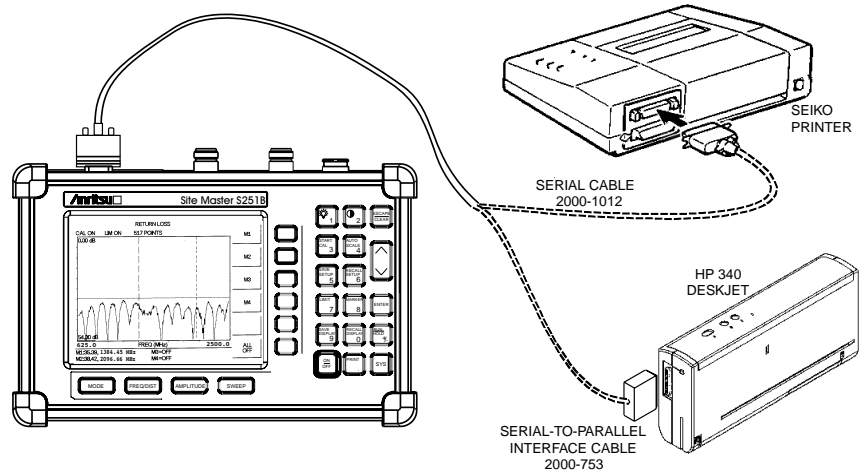

Figure 3-13. Site Master Printer Setup
Step 1. Connect the printer as shown in Figure 3-13.